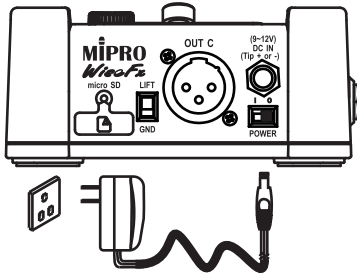

Fig. 5
#### (A) Power Supply Installation, Fig. 5: